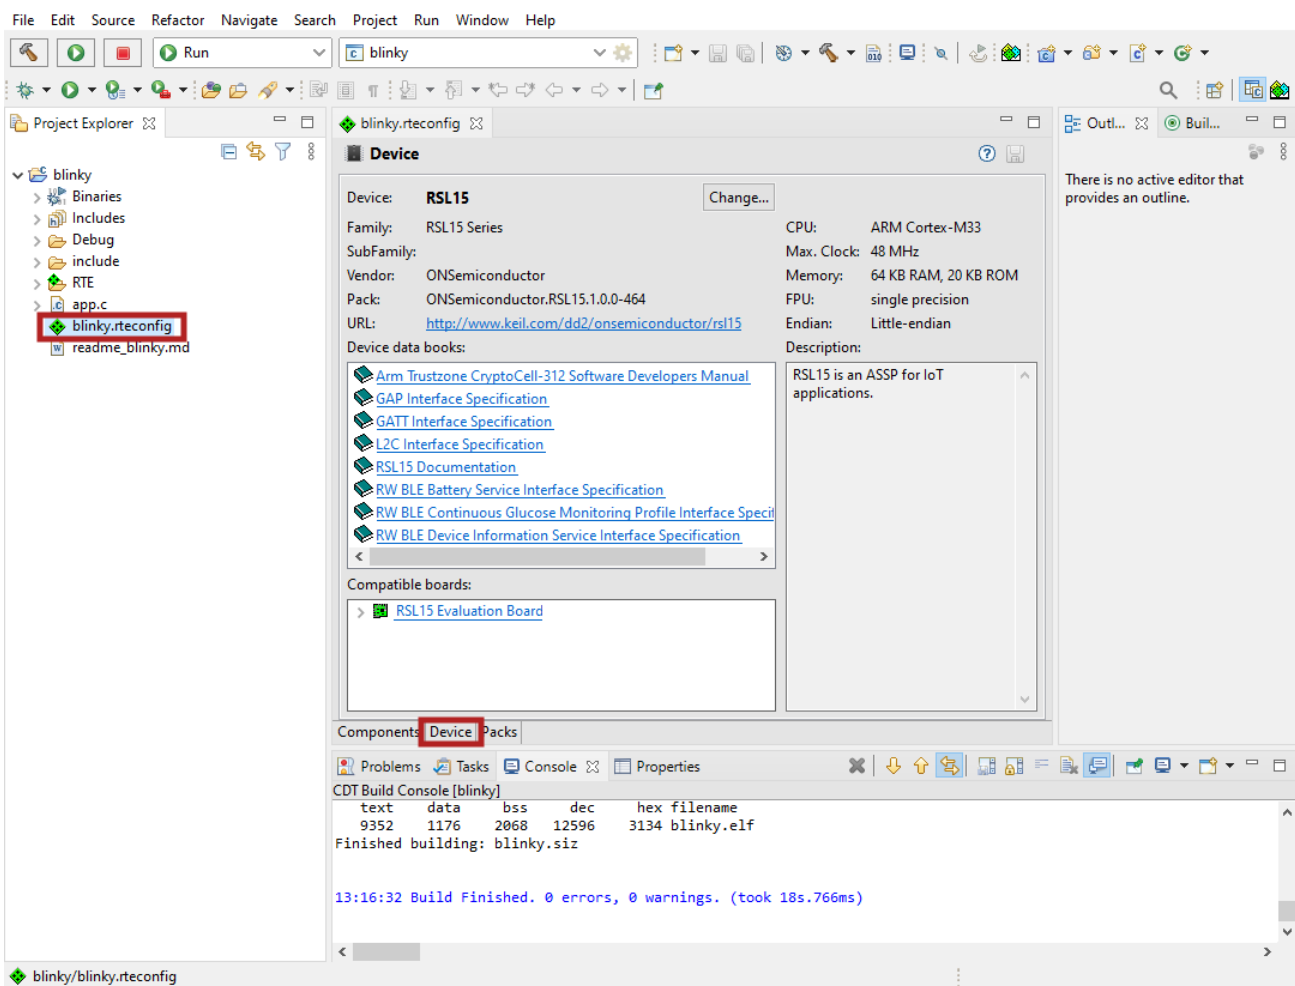

Figure 50. Accessing Documentation with the Device Tab
2. Select the **Device** tab (see the "Accessing Documentation with the Device Tab" figure (Figure 50)).